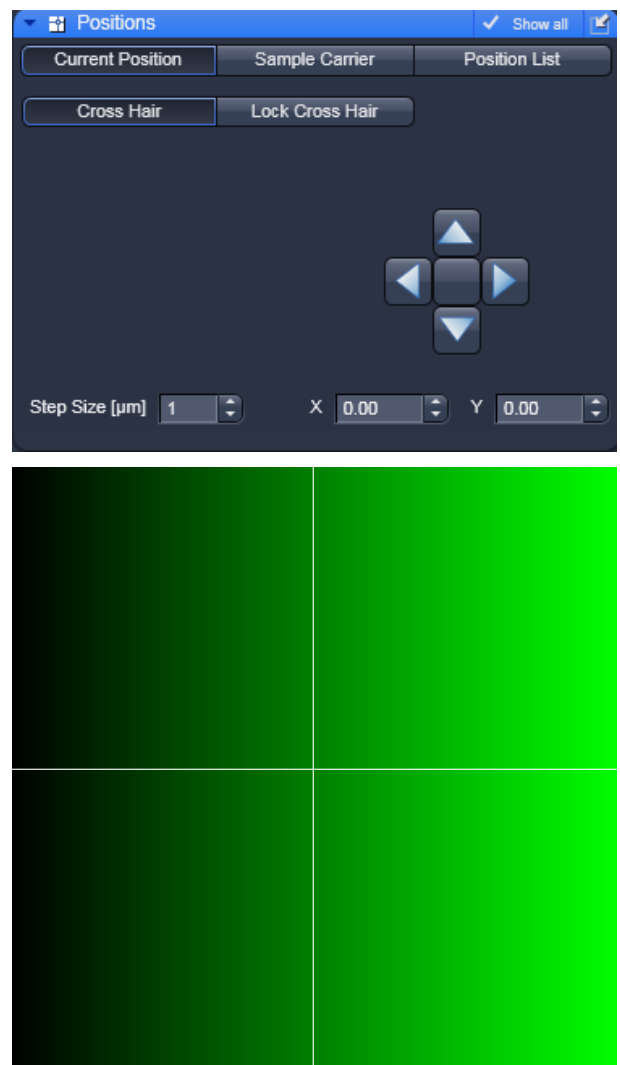

Fig. 319 Current Position display with cross hair activated (above) and image with cross hair displayed (below)
- Press the **Cross Hair** button (Fig. 319). This will display a cross hair in your scan image. Click again to remove the cross hair. Position the crosshair at the coordinates you want to take the reading. The crosshair will be positioned on the site were you click with the left mouse button. We recommend not to close the **Scan** window after setting the crosshair. Then the crosshair will be preserved within the new scan. Fix the cross hair by pressing the **Lock Cross Hair** button. This prevents the cross hair from moving by an accidental click in the image window.